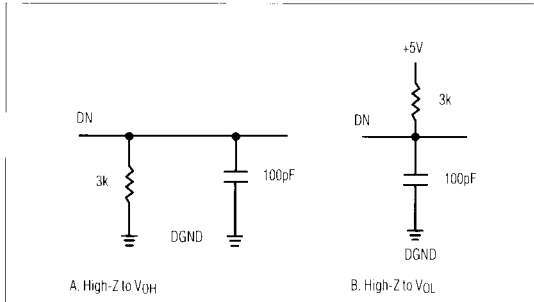

Figure 1. Load Circuits for Data-Access Time Test
**Note 7:** t3 and t6 are measured with the load circuits of Figure 1 and defined as the time required for an output to cross 0.8V or 2.4V.